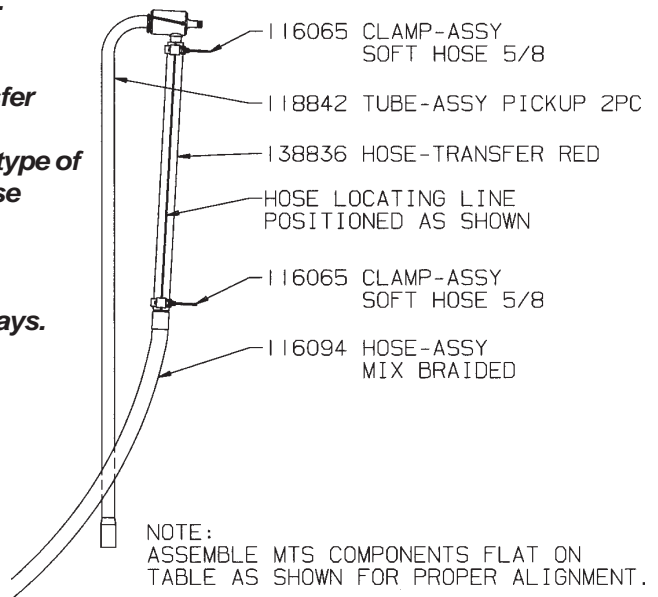

Figure 7-6 Attaching Braided Hose
15. Connect the transfer hose to the braided hose assembly at the barbed fitting as shown in Fig. 7-6 and secure the hose with the clamp. Finger tighten only. The thumb screw must lay horizontal.